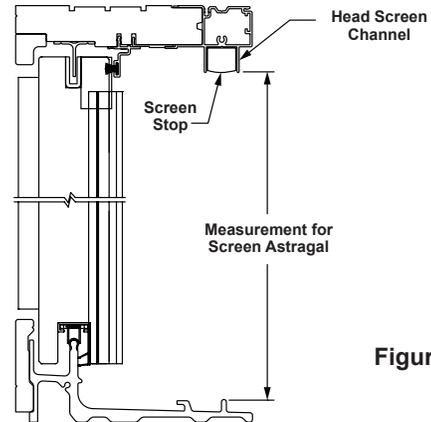

Figure 15
- Measure the distance between the head screen channel and the screen roller track. Cut the screen astragal 1/8" shorter than this measurement (Figure 15).
- Attach screen stop in the head screen channel at the center of the door using the provided #8 x 3/4" pan head sheet metal screw (Figure 15).